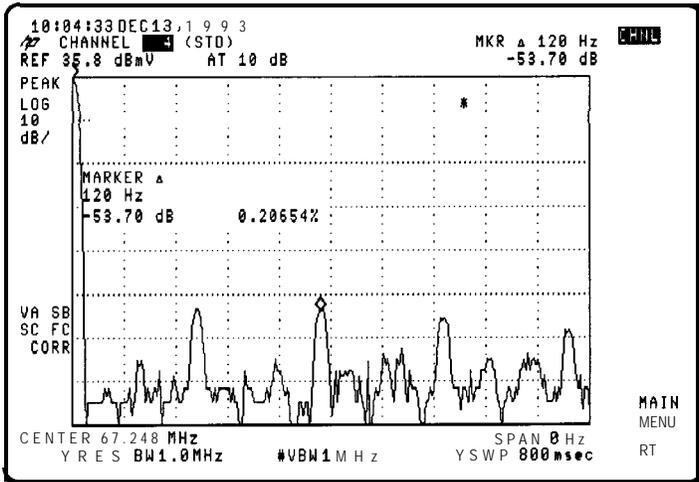

Figure 2-31. Hum, More Information
2. Pressing MORE INFO results in the analyzer performing a single sweep of 800 ms and performs a Fast Fourier Transform (FFT) on it to separate power line related components. See Figure 2-31.